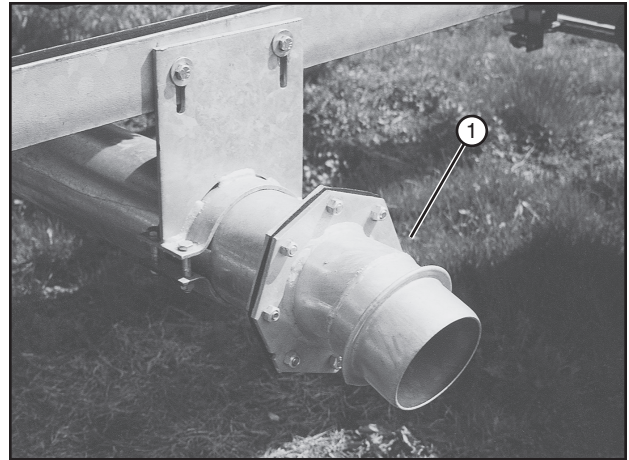

Figure 77-1 1. Water Outlet
1. Disconnect the water supply and transition hose from the cart. Move them out of the path of the Linear cart and drive units. See Figure 77-1.